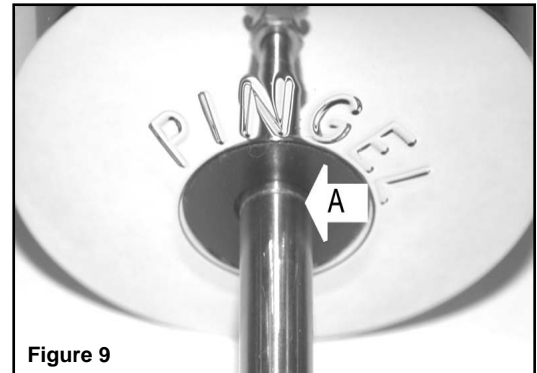

Figure 9
Before adjusting the shift cylinder up or down make sure the motorcycle transmission is in a resting position. While holding onto the electric shift cylinder housing, loosen the two screws on the clamp. Now find the groove in the center of the cylinder shaft. Adjust the cylinder housing up or down so the groove in the shaft is exactly at the plastic bushing, located on the bottom of the cylinder housing, as shown in (A) figure 9. With the shift cylinder in the correct position, tighten the two bolts of the Pingel clamp.